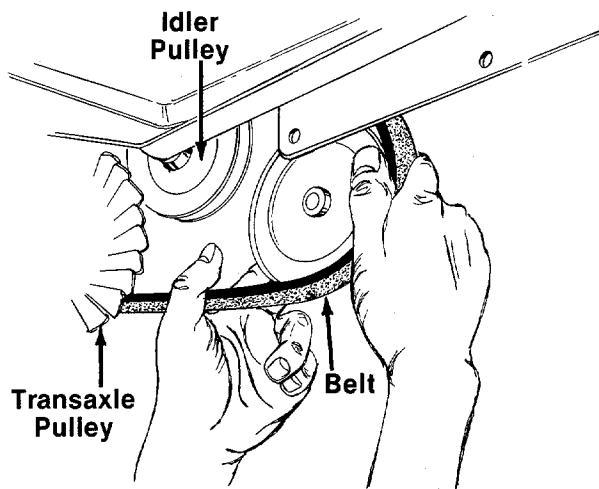

FIGURE 17.
4. Pull idler pulley down, and remove the belt. See figure 17.